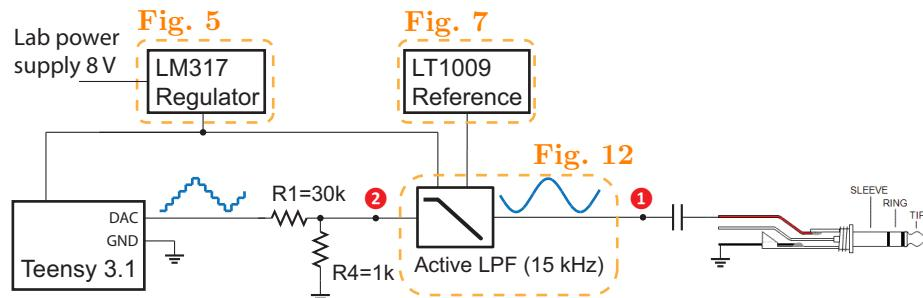

Figure 13: Acquiring signal through computer sound card.
1. Set up the system according to Fig. 13.
7. Now use the audio cable to acquire the signal after the gain stage (position 2 in Fig. 13). Record the data and compare it with that from the last step. Explain the difference, if there is any.